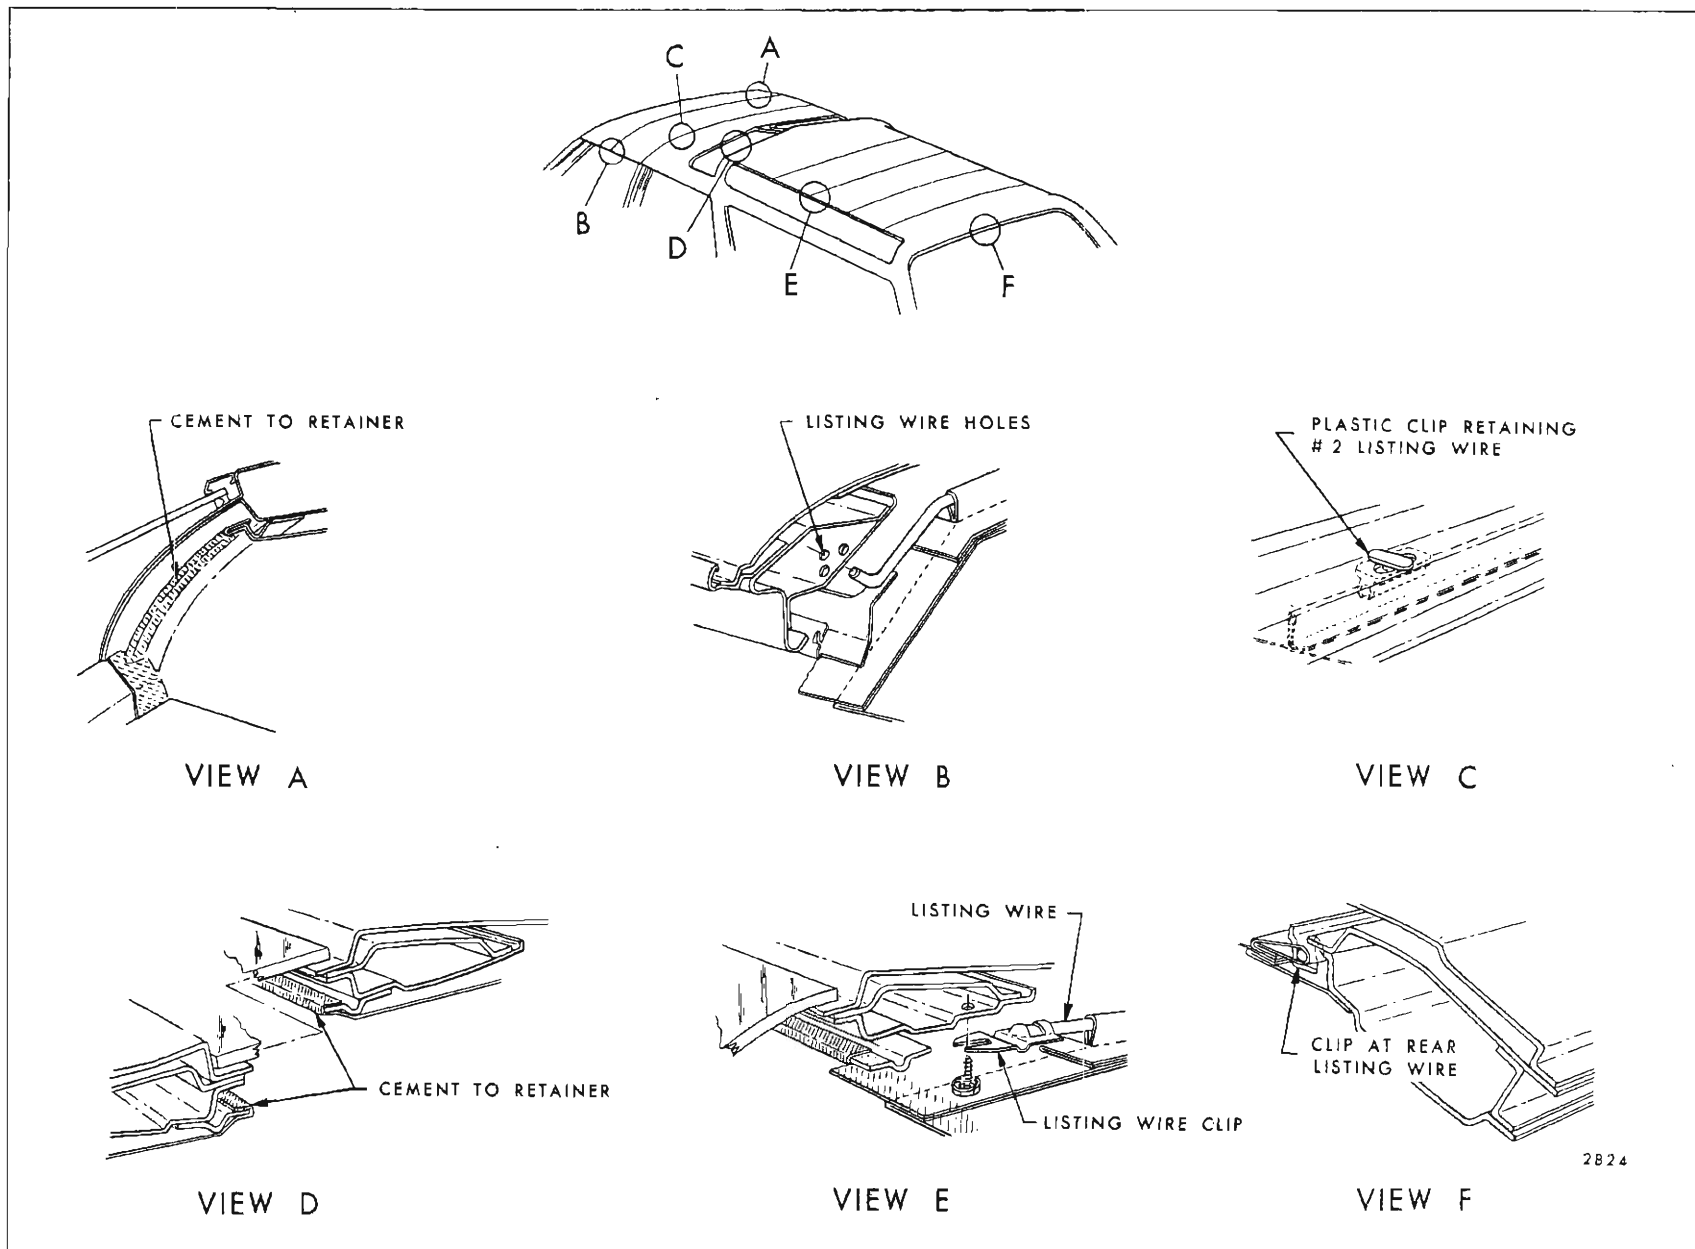

Fig. 11-3—Headlining Installation '55, 65, 56, & 66' Styles
lining is formed to the contour of the roof panel by concealed listing wires. The ends of the listing wires are installed into holes in the side roof inner rails, and may be adjusted up and down or fore and aft (View "B", Fig. 11-3).
The headlining material is cemented to metal retainers and side roof rail pinchweld flanges (View "A", Fig. 11-3). Escutcheons, moldings, and finishing lace cover the edges and assist in holding the material in place.
The rear headlining is formed to the contour of the roof panel by concealed listing wires. The ends of the listing wires are installed into clips which are secured to the side roof inner rails by screws (View "E", Fig. 11-3). The edges of the material are cemented to the retainer flanges. Finishing lace and moldings cover the edges and assist in holding the material in place.
4. Disengage No. 2 listing wire from plastic clips on structural bow and remove No. 1 & 2 listing wires from inner rails. Gather or roll headlining with listing wires on outside to keep headlining clean and remove old headlining assembly. (See Fig. 11-3, View "C")
4. Lift headlining into body, install No. 1 & 2 listing wires into holes in side roof rails and snap No. 2 listing wire into plastic clips on structural bow (see Fig. 11-3, View "B & C").
4. Starting at front remove listing wires from roof inner rails (see Fig. 11-3, View "E").
5. At rear listing wire, bend down tabs securing wire to bow (see Fig. 11-3, View "F").
4. Lift headlining into body, install center of rear listing wire over metal tabs at rear bow and bend down tabs (see Fig. 11-3, View "F").
5. Working forward install remainder of listing wires into clips and secure clips to roof. (see Fig. 11-3, View "E").